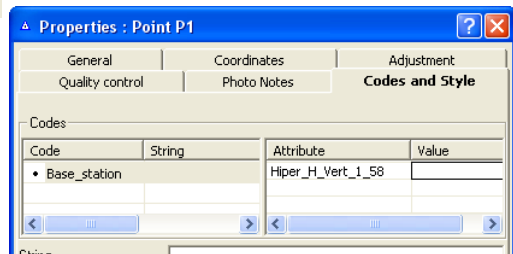

Figure 3-7. Examples of Coordinates File Format with Code and Attribute
- FullCodes include Code and Attribute – if these codes are included as shown in Figure 3-7